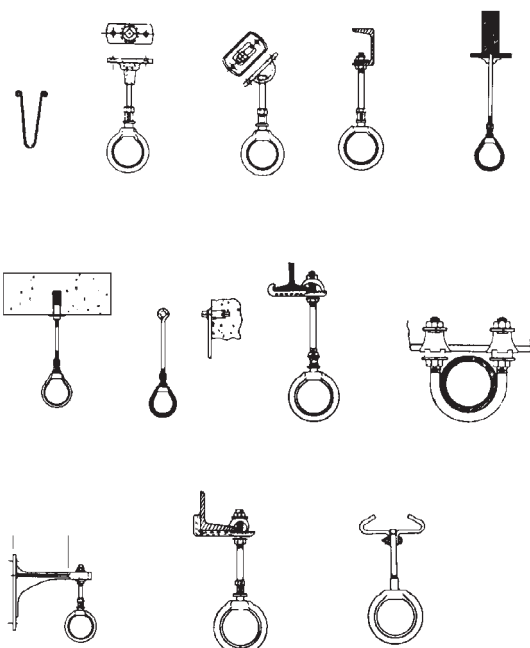

FIGURE 9
- The hangers must be UL listed and rigidly supported. The Hanger Application Table and Figure 9 list some typical hangers used for different mounting surfaces.